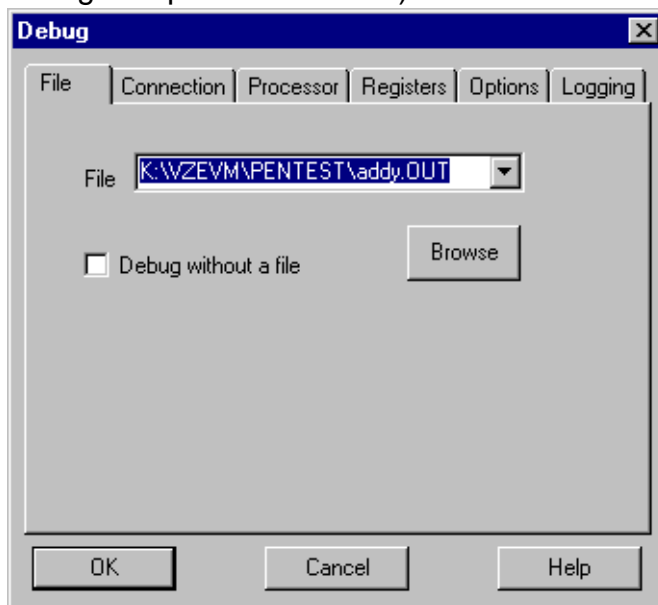
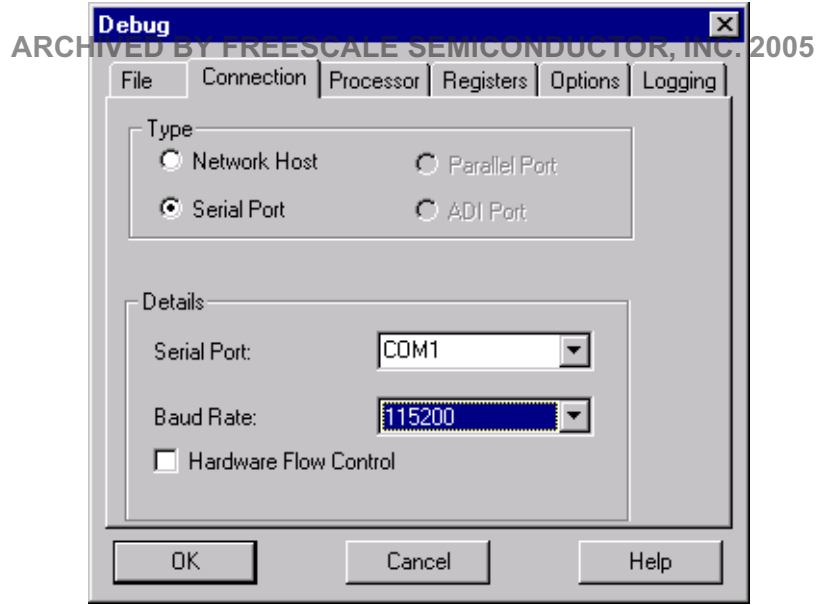

Figure 2-5. Debug Pop-Up Window of SDS v7.4
Figure 2-6. Connection Setting inside Debug Pop-up Window of SDS v7.4
4. Inside the **Debug** pop-up window, choose the object file to download or "debug without file" as shown in Figure 2-5, select the serial port (COM1 or COM2 ...) according to the serial port of the PC connecting to the ADS, disable "hardware flow control" and the baud rate should be 115200bps as shown in Figure 2-6.